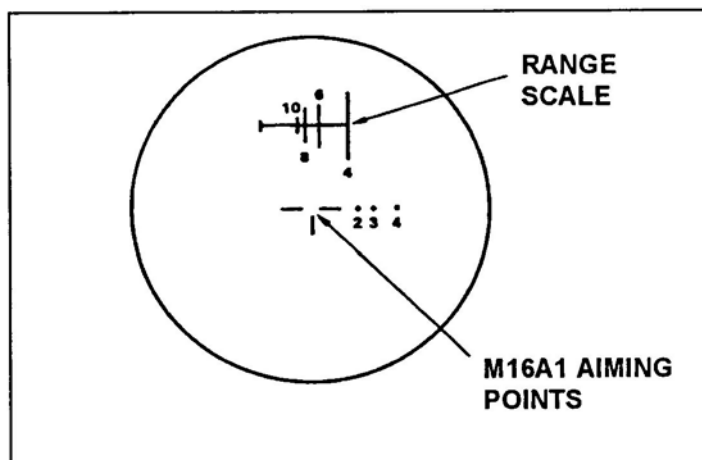

Figure 1. Sight reticle.
NOTE: Ensure the AN/PVS-4 has the proper sighting reticle (Figure 1).
2. Use the sight reticle. When used with the rifle, the AN/PVS-4 sight reticle consists of two parts (Figure 1).